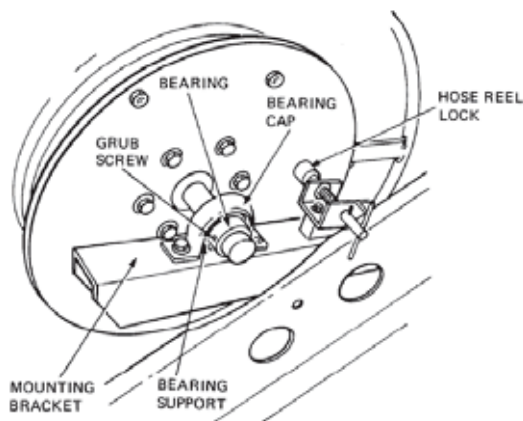

Figure 10 Hose Reel Mounting Arrangement
- b. Loosen the bearing grub screw (Figure 10) then slide the bearing off the shaft.